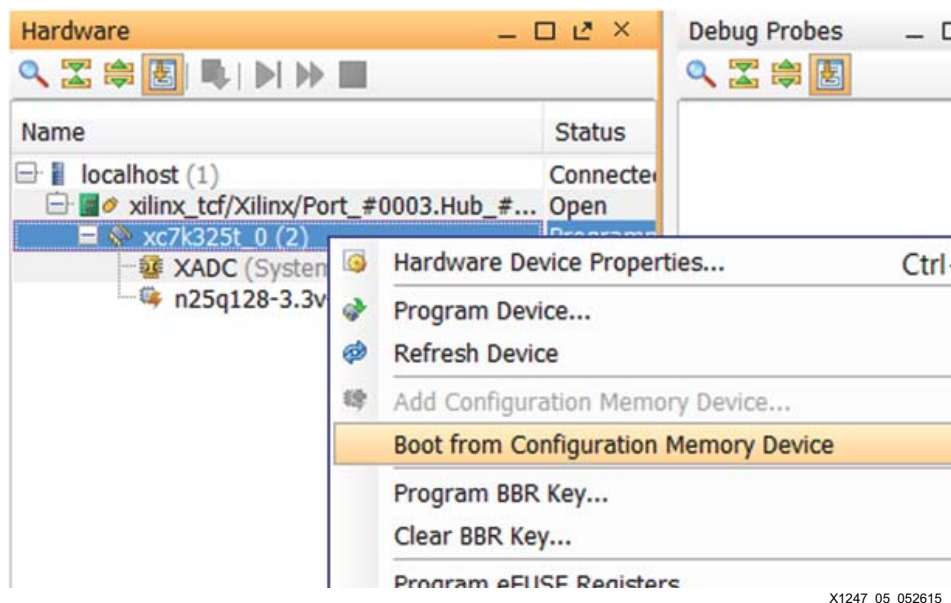

Figure 5: Vivado Hardware Manager - Booting from Configuration Memory Device
4. After SPI flash programming completes successfully, boot the FPGA from flash by pulsing PROGRAM_B pin (PROG_B button, SW14). Alternatively, you can right-click on the device in Hardware Manager to use the Vivado GUI option **Boot from Configuration Memory Device** (see Figure 5).